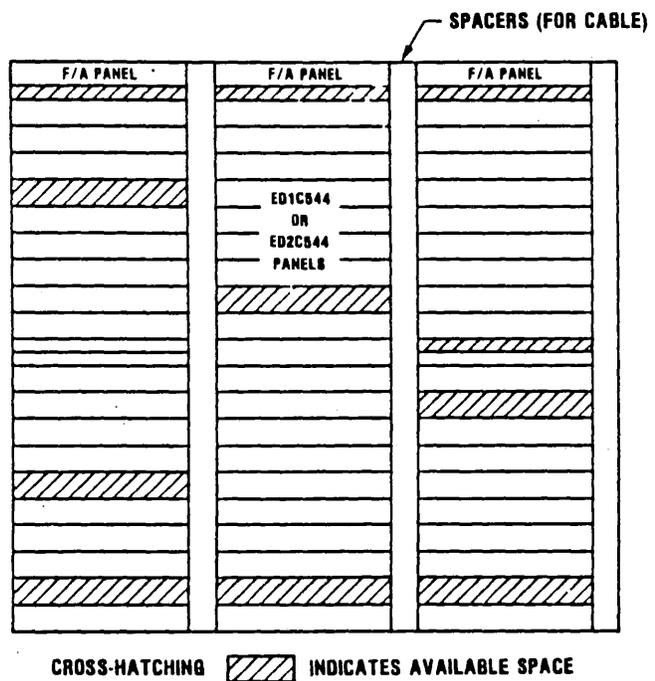

Fig. 1—Layout of Lineup Before Adjacent Application
3.01 Install the 800-series panels in the new bays so that the jack fields face the same direction as the jack fields in the old-type panels existing in the lineup. However, since the old-type panels use back-running jumper methods and the new 800-series panels use front-running jumper methods, the first new-type bay added must be specially equipped. This specially equipped bay should be installed directly adjacent to the existing old-type bays and is further referenced throughout this practice as the DAB (directly adjacent bay). Refer to Fig. 1 and 2